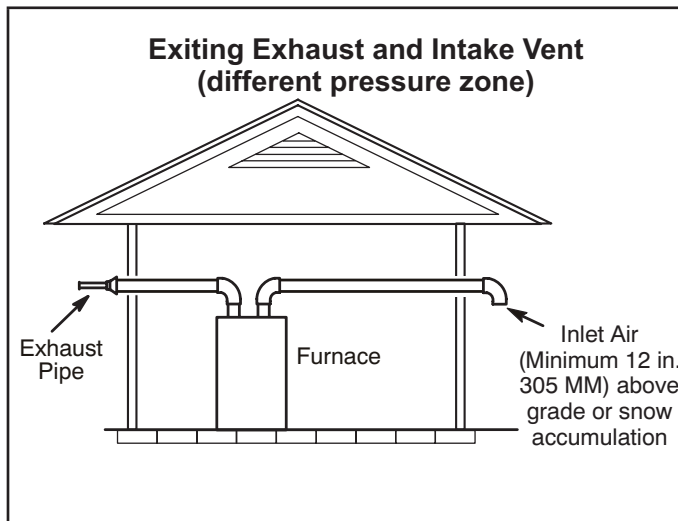

FIGURE 32
- 1 - Intake and exhaust terminations are not required to be in the same pressure zone. You may exit the intake on one side of the structure and the exhaust on another side (FIGURE 32). You may exit the exhaust out the roof and the intake out the side of the structure (FIGURE 33).